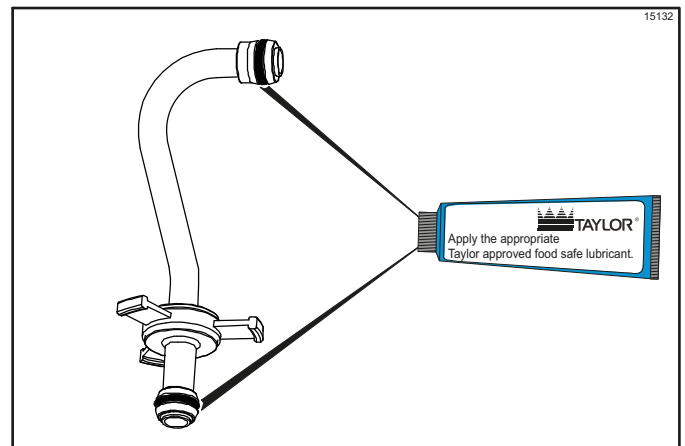

Figure 6-30
11. Install one red O-ring on each end of the mix feed tube, and thoroughly lubricate. (See Figure 6-30.)